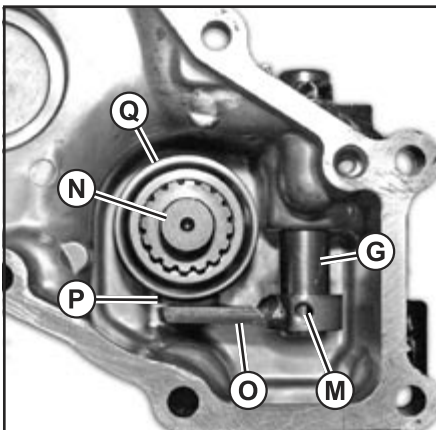

Fig. 49, 4WD Cover Removal
14. Slide the 4WD shift shaft (G) down into the cover until bearing shift block (P) is clear of the front shift collar (Q). Remove the bearing shift block; then, pull out the front shift collar (Q) and 4WD output shaft (N). Drive out roll pin (M) from 4WD shift arm (O) by aligning roll pin with open port in 4WD cover (bolt (I) must be removed). Replace if damaged or worn. (Fig. 49)